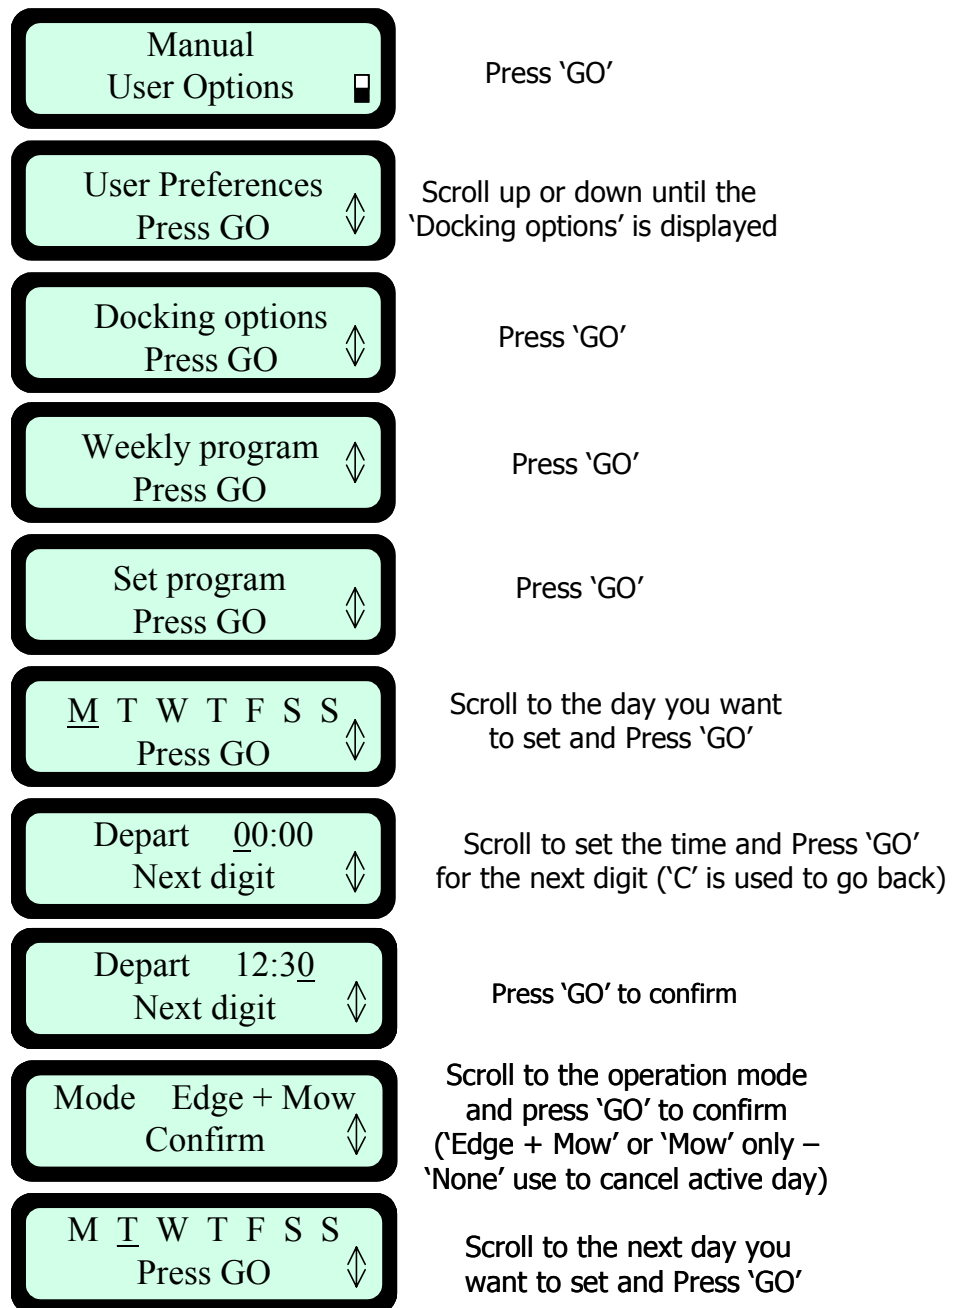

Figure 4.2 – Setting the Weekly Program
- 1. Take the Manual Controller from its holder, follow the instructions explained in Figure 4.2 until 'Weekly program' is displayed' and continue to follow the steps in Figure 4.3.